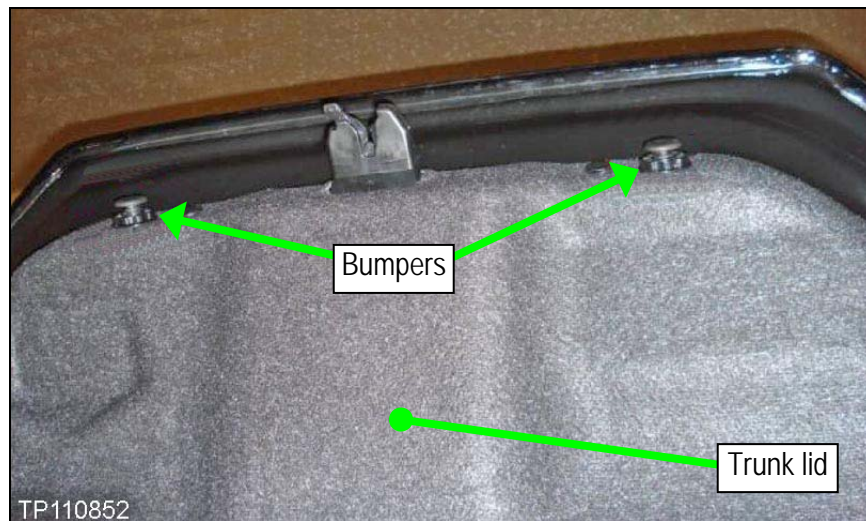

Figure 37
- Remove both bumpers, and then extend the rubbers all the way out (see Figure 37 and 38).